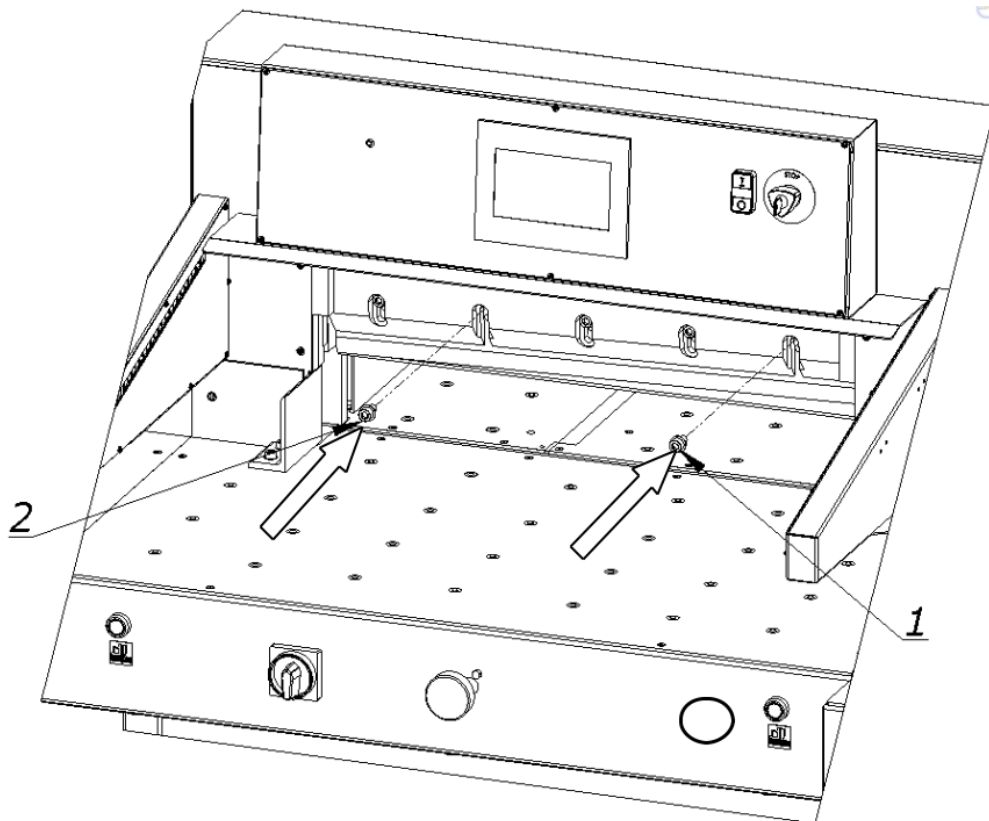

Figure 33
8.1.2.6 Unscrew both transport lugs 1 (figure 33) and replace them with the mounting screws 1 and 2 (fig. 33)